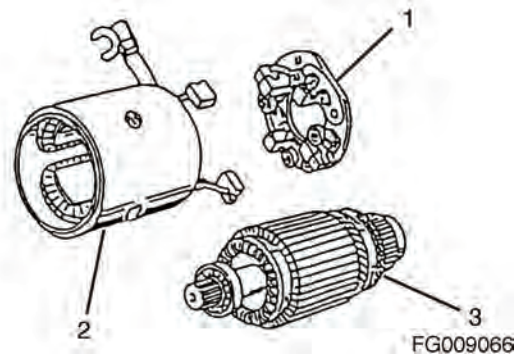

Figure 344
5. Remove the brush holder assembly (1, Figure 344) from the armature assembly (3, Figure 344).
6. Pull the armature assembly (3, Figure 344) out from the field coil assembly (2, Figure 344).